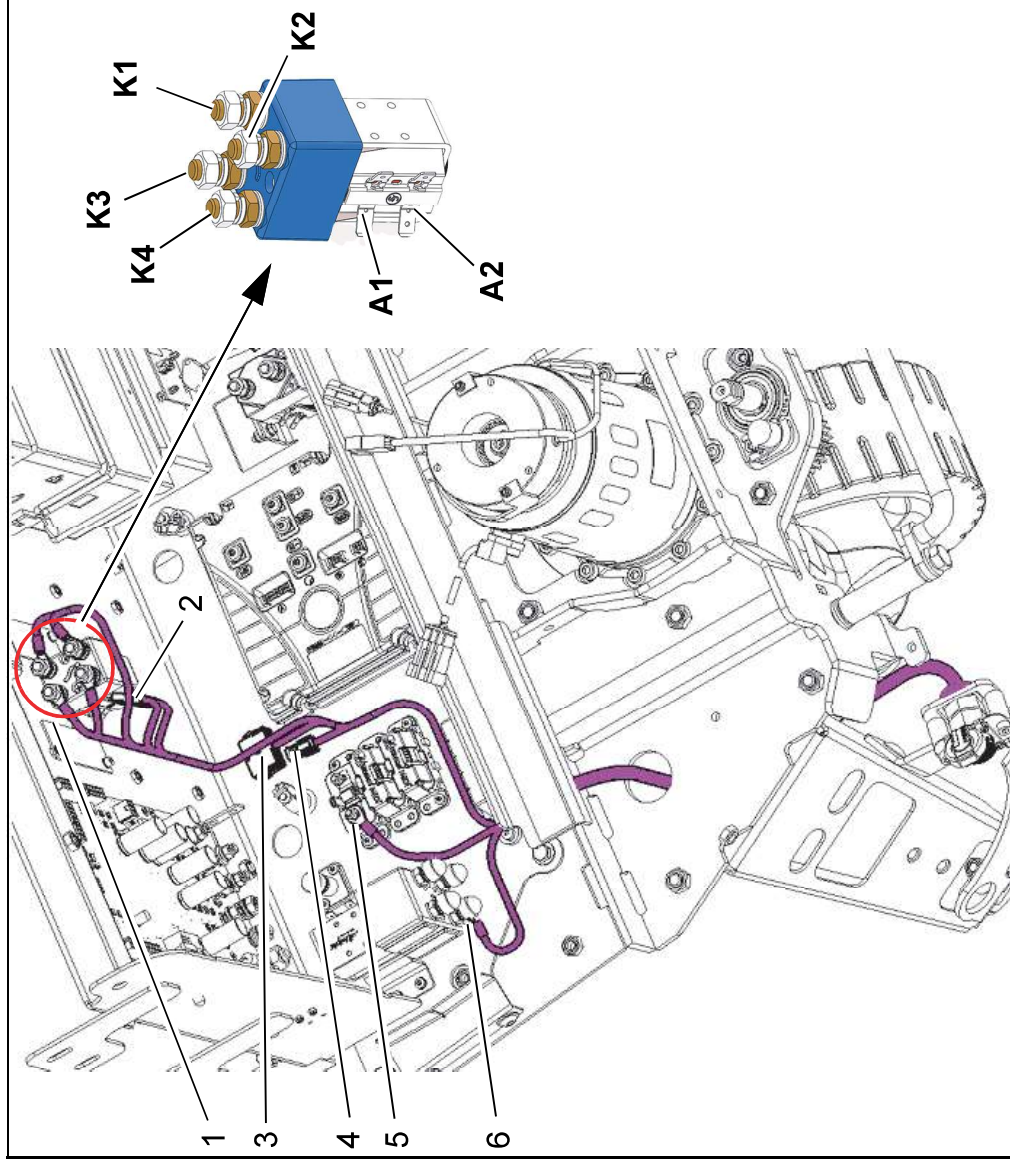

Fig. 5
1. Connect cable loom to relays K21/K1, K21/K2, K21/K3 and K21/K4 (Fig. 5/1).
2. Attach connectors to K21/A1 and K21/A2 (Fig. 5/2).
3. Attach 14-pin connector X22 to the connector of the same name of cable loom W3 (Fig. 5/3).
4. Attach 2-pin connector X23 to the connector of the same name of cable loom W3 (Fig. 5/4).
5. Make connection to fuse F05/2/1 (Fig. 5/5).
6. Make connection to main relay K01/K03 (Fig. 5/6).